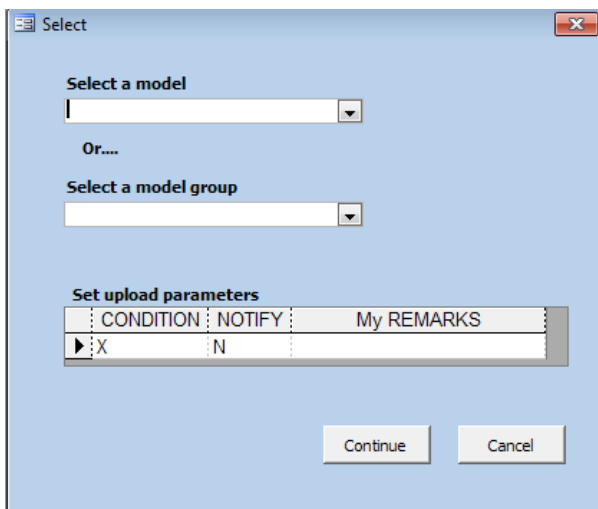

Figure 3 - Select Model and enter data
1. In the Select window, select either to upload a single model, or a number of models in a “model group”. You can also choose a number of upload parameters that you can read more about at BrickLink. (Figure 3)